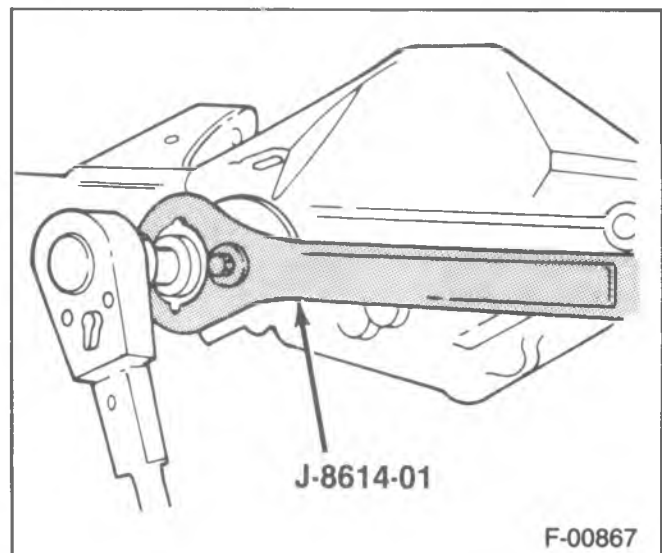

Figure 18—Removing the Drive Pinion Nut
- Position J-8614-01 on the flange so that the four notches on the tool face the flange (figure 18).